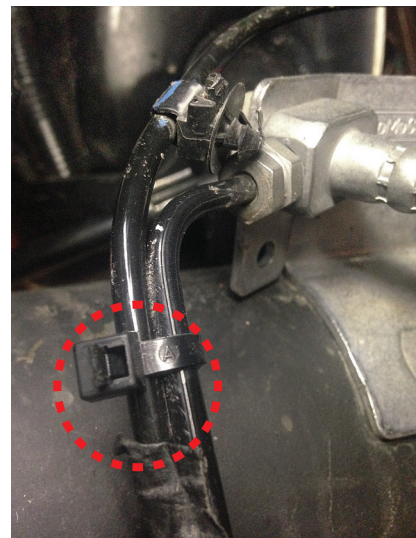

Fig. 19
2. Zip tie the ABS line to the hard brake line (red circle) to keep it away from the lower support leg (Fig. 19).